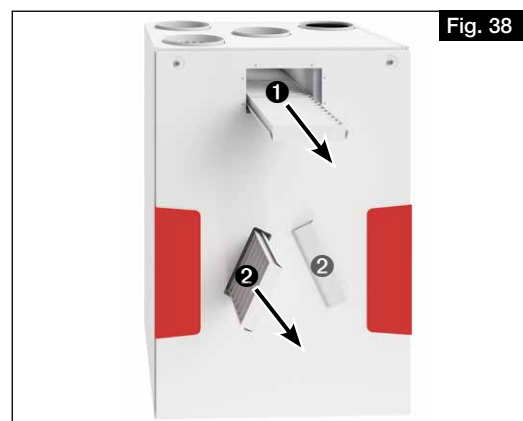

Fig. 38
2. Pull intake air filter ❶ to the front and replace (see Fig. 38).
4. Pull extract air filter ❷ to the front and replace (see Fig. 38).